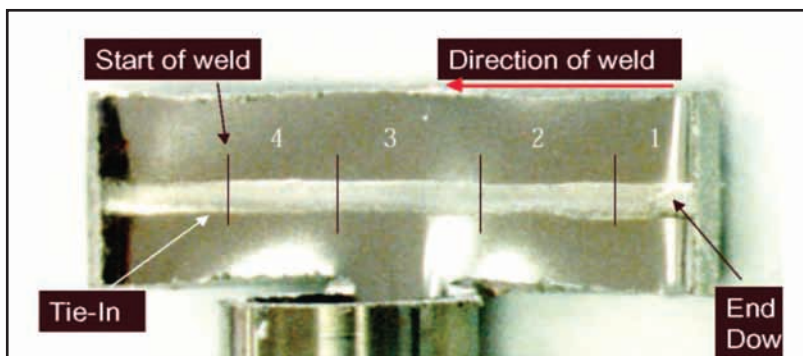

Fig. 1 — Example of preconstruction weld sampling.
Preconstruction weld sampling (PWS) is an activity to prove the combination of welder/operator, machine, WPS, and materials are conducive to making repeatable quality welds. The inspector needs to verify PWS (Fig. 1) as acceptable per AWS D18.1/D18.1M Sec. 6, then use it as a standard during the production day. It needs to be understood that every
*Fig. 1 — Ultrasonic examination being performed on heat exchanger supports. Even if you’ve performed similar inspections in the past, you need to properly and thoroughly prepare for each inspection job.*
run — Fig. 1. I have always believed my preparation practices were above average for performing inspections. However, I recently had an experience with a trainee that opened my eyes and taught me a valuable career lesson with regard to this topic. I was called upon to perform multiple ultrasonic inspections that I felt were going to be just another set of “routine” inspections that would fall within my comfort zone toolbox of inspections. I had performed what I thought were similar ultrasonic inspections in the not-so-distant past. Within minutes, I had in my mind the path forward for completion of these inspections. I immediately envisioned the required flaw detector, transducers, calibration standards, acceptance criteria, qualified procedure(s), etc. I believed we were ready to move forward with very little effort.